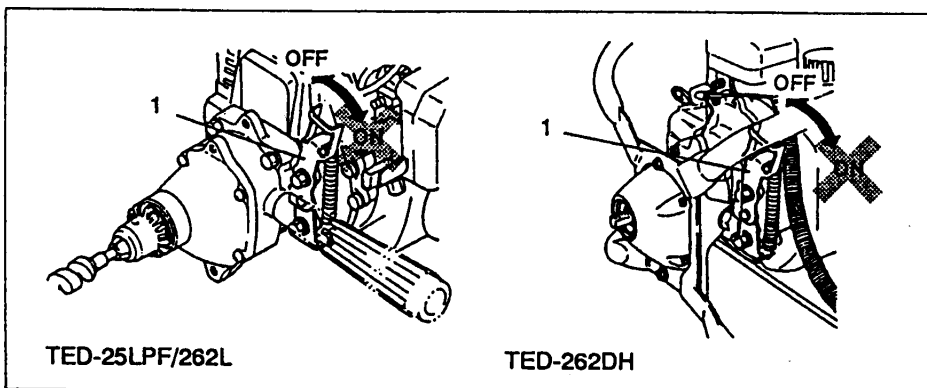
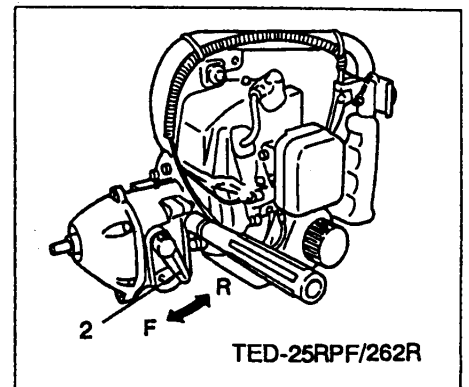

Fig. 2-5C
Fig. 2-5D
**How to operate Lock control (on TED-262L/262DH) (Fig. 2-5C)**
- When bit has stuck in object, stop engine and turn on lock lever (1).
**How to operate Reverse control (on TED-262R) (Fig. 2-5D)**
- Decrease engine speed to idle and move shift lever (2) to R (Reverse) position, then accelerate to pull out.